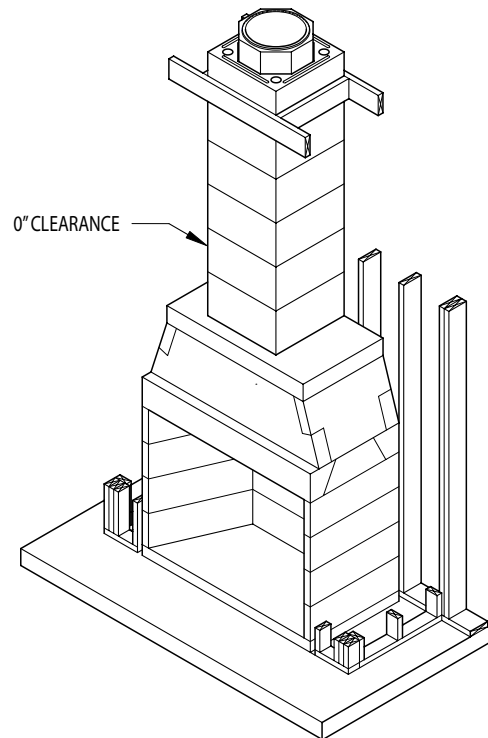
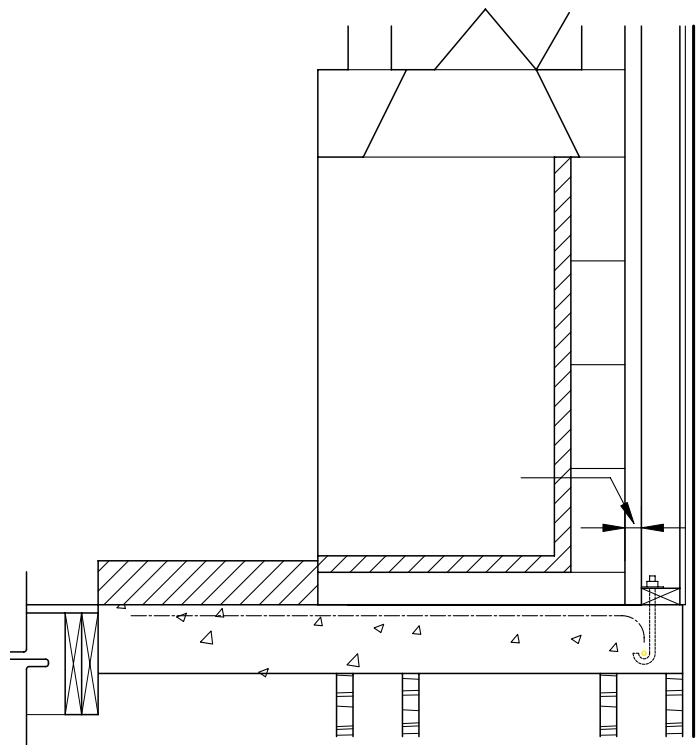

FIGURE 2
FIGURE 3
The MAGNUM Series firebox side walls and back wall require 1-1/2” clearance. (Figure 3)
All DM 44 and 54 chimney components require 0” clearance. (Figure 2).
The Magnum Series fireplace must sit upon a concrete support slab designed to bear the total installed weight of the fireplace and DM 54 chimney system. (See Figure 2 for additional details). These support slabs can have no wood underpinnings. (Figure 3)
B. Concrete support slabs for MAGNUM Series fireplaces must provide the noncombustible hearth extension substrate needed to support the code required noncombustible hearth extension finish materials. (Figures 2 and 3)